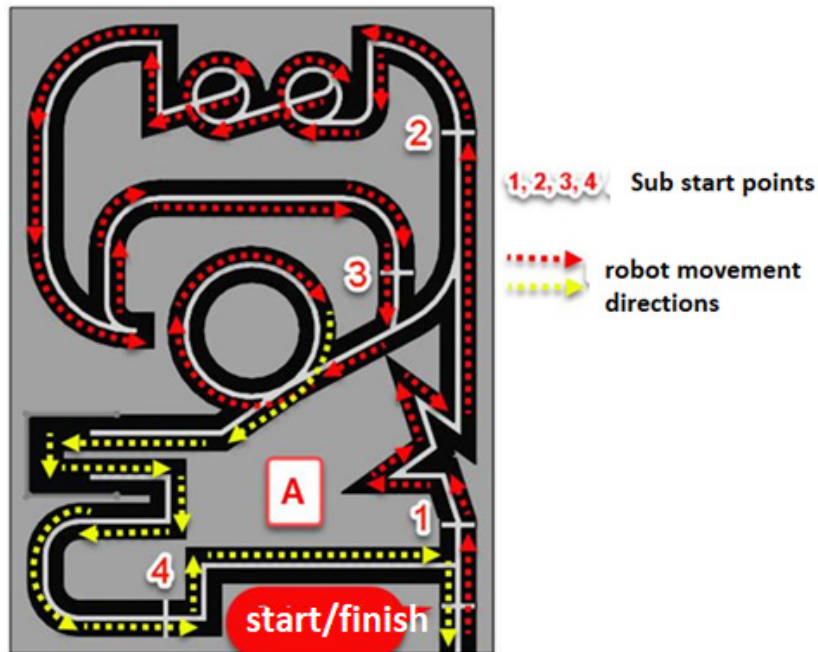

Figure 7 :Line tracer robot movement directions
6. Robots have to move to the directions shown at figure 7.